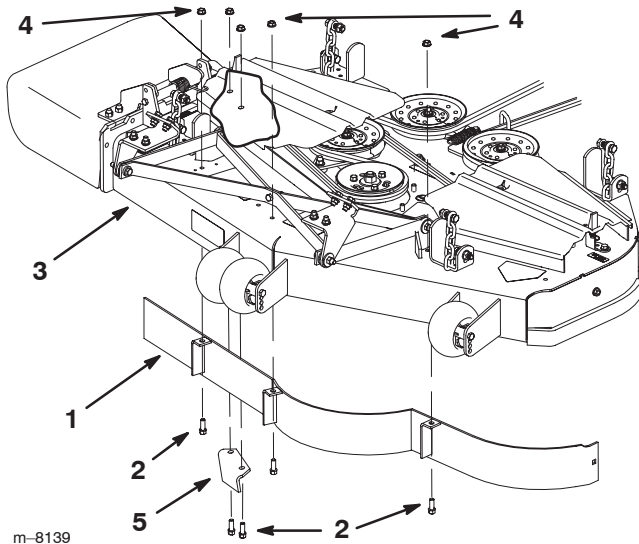
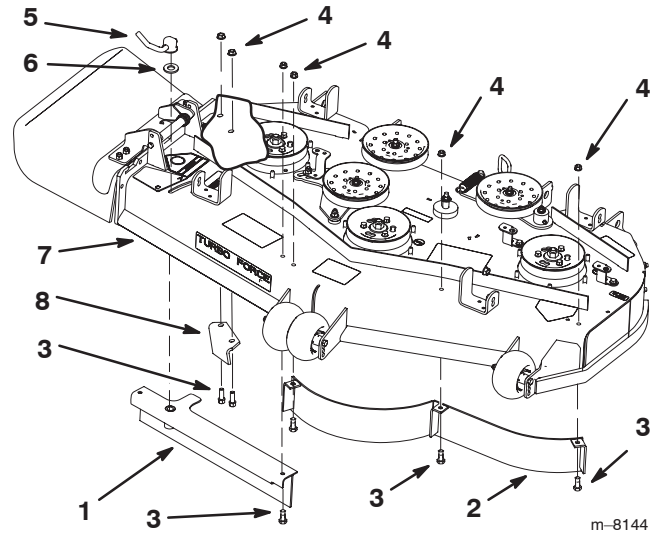

Figure 2
Figure 3
**Note:** This kit will fit two different types of mower decks. One type of mower deck is shown in Figure 2 and has one front baffle. The second type of mower deck is shown in Figure 3 and has an Adjustable Flow Baffle.
1. Remove the nuts holding the front baffle in place (Fig. 2).
2. Remove the nuts holding the discharge baffle in place (Fig. 2).
3. Remove the bolts holding the front baffle in place (Fig. 2).
4. Remove the bolts holding the discharge baffle in place (Fig. 2).
1. Remove the nuts holding the baffles in place (Fig. 3).
2. Remove the cam lock holding the Adjustable Flow Baffle in place (Fig. 3).
3. Remove the bolts holding the baffles in place (Fig. 3).